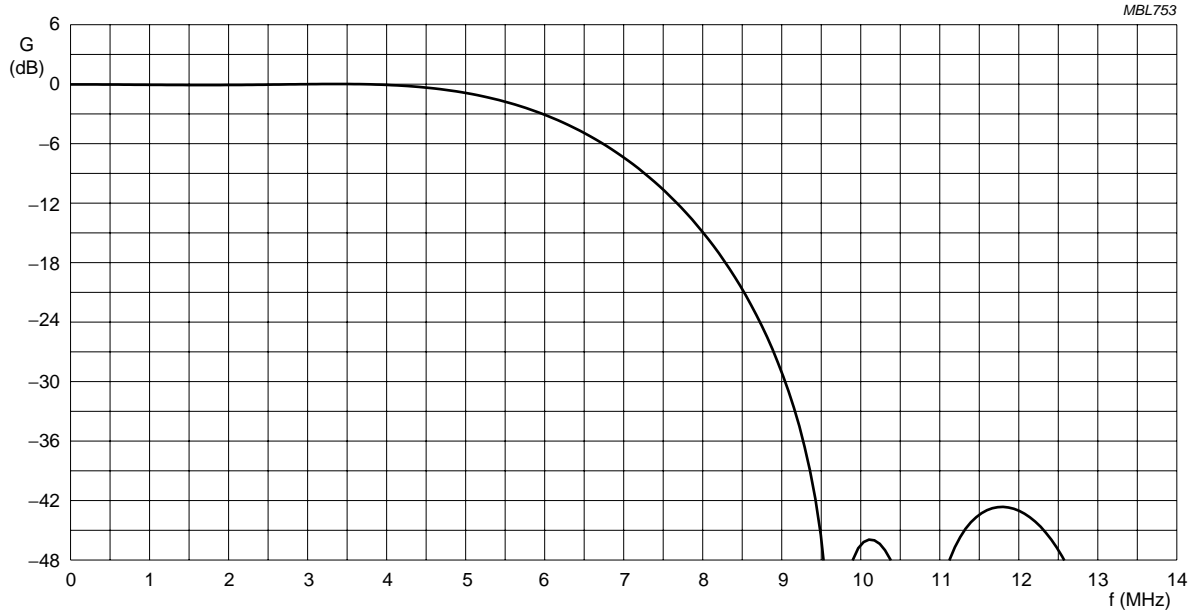

Fig.5 Decimation filter.
The SAF7118 offers sixteen analog signal inputs, four analog main channels with source switch, clamp circuit, analog amplifier, anti-alias filter and video 9-bit CMOS ADC with a Decimation Filter (DF); see Figs 5 and 8.